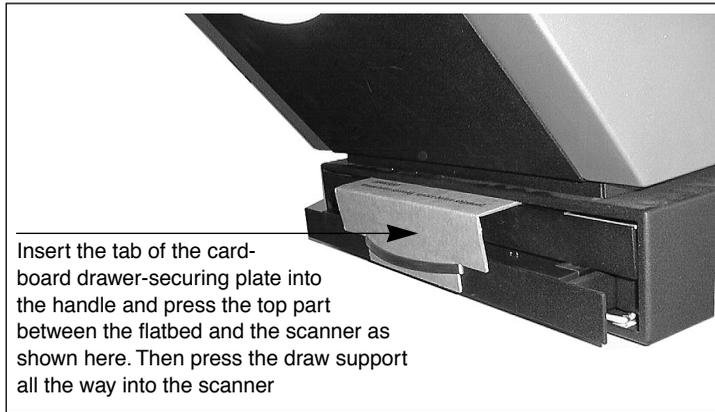

Figure 13: Positioning the cardboard draw-securing plate.
6. Locate the cardboard drawer-securing plate that came with the scanner. It is shown in Figure 13.
7. As shown in Figure 13, insert the tab of the cardboard drawer-securing plate into the handle and press the top part between the flatbed and the scanner. The space between the flatbed and the scanner is very narrow and makes a tight fit with the cardboard. You may need to press down slightly on the flatbed in order to fit the cardboard in.